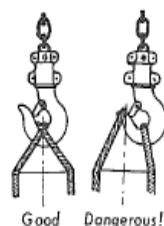

FIGURE 1
3. Place ropes or chain in center of bottom hook (Figure 1), making sure safety catch is secure.